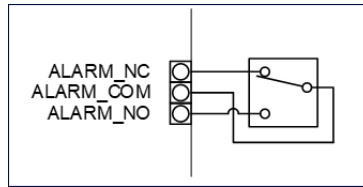

Figure 3-2: Alarm Relay Output Detail
- Alarm Relay Outputs — Table 3-1, "Alarm Relay Outputs \(J1\)," on page 68 and Figure 3-2: Alarm Relay Output Detail on page 69.
Refer to the following pin-out information (Table 3-1) and relay output details (Figure 3-2) when installing alarm output wiring.